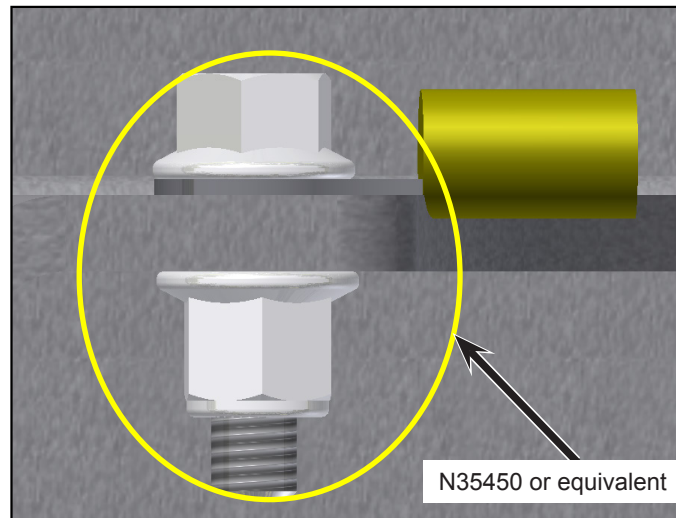

Figure 5 - Application of Corrosion Inhibitor
- 1.11. Apply corrosion inhibitor (Loctite Maxi-Coat N35450 or equivalent) all over the hardware and the lug (see Figure 5).